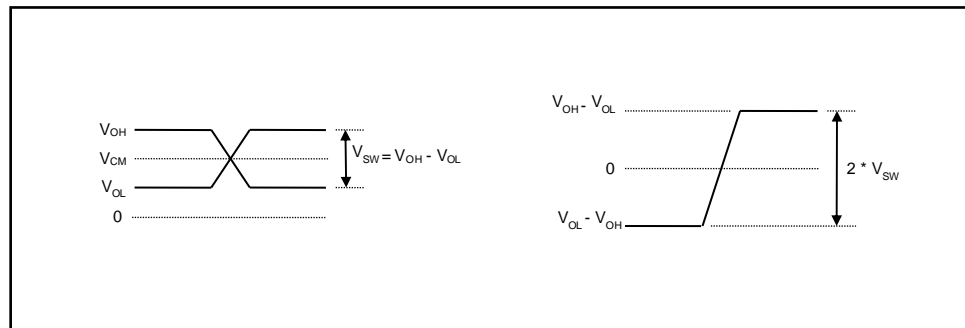

Figure 40. Differential Output Voltage Levels
**Output differential swing is calculated as $V_{SW} = V_{OH} - V_{OL}$. It should not be confused with $V_{SW} = 2 * (V_{OH} - V_{OL})$ used in some datasheets. Please refer to Figure 40.